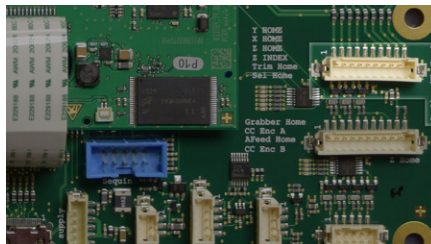

Figure 4 - Grabber/Thread Feed Motor Connection at PCB
17. Connect the grabber motor lead to the interface cable coming off the grabber stepper motor. Loop it and tie it with a cable tie as shown in Figure 4 above. Allow just enough slack so that the connectors will not disconnect during machine operation.